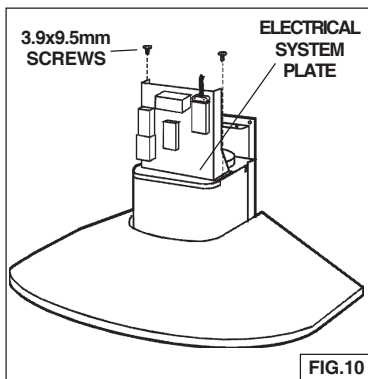

FIG.10
5. Secure the electrical system plate to the range hood with (2) mounting screws (3.9x9.5mm). Fig. 10